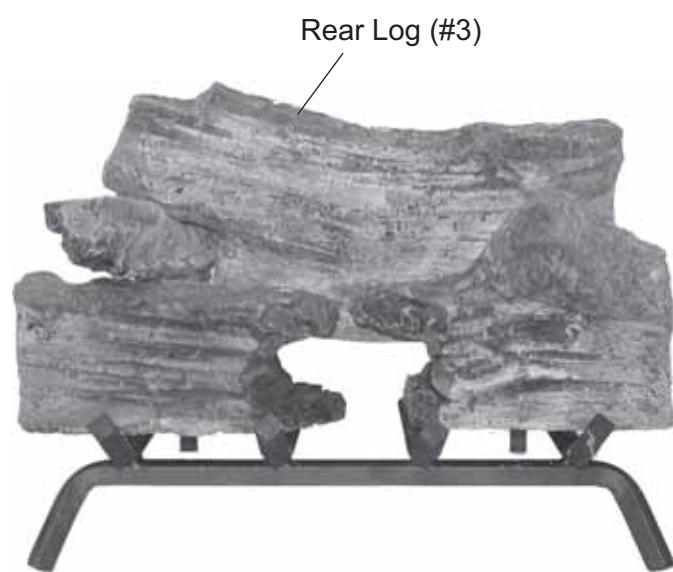

Figure 97 - Installing Rear Log #3
5. Fit cutout in the bottom left of Rear Log #3 over the back end of log #1A. Rest right end of Log #3 on rear grate bar. *See Figure 97.*